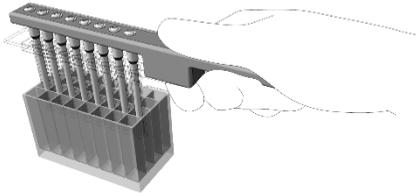

Figure 3. Collecting the magnetic beads from **column 2**.
7. Use the IndiMag Handheld with the attached rod cover and slowly mix 10 times up and down to collect the magnetic beads from **column 2** (Figure 3). Wait until all the beads have attached to the rod cover. Now, transfer the IndiMag Handheld with rod cover and attached magnetic beads into **column 1**.